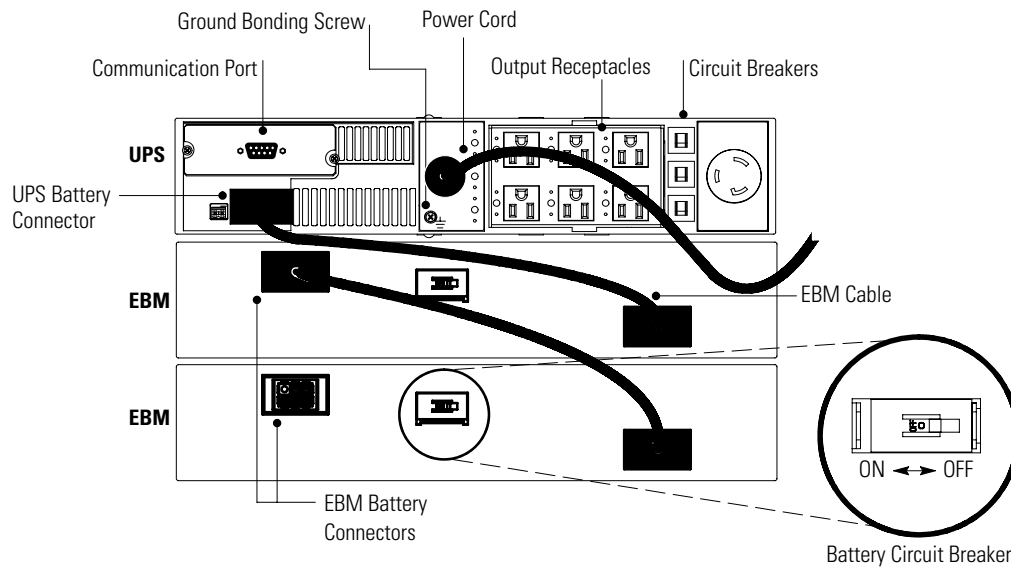

Figure 15. Typical UPS Installation with Two EBMs
Figure 15 shows a typical installation only. See “UPS Rear Panels” on page 31 for the rear panel of each model.
2. Verify that all battery circuit breakers are in the OFF (O) position (see Figure 15).
3. Plug the EBM cable(s) into the battery connector(s) as shown in Figure 15. Up to four EBM(s) may be connected to the UPS.